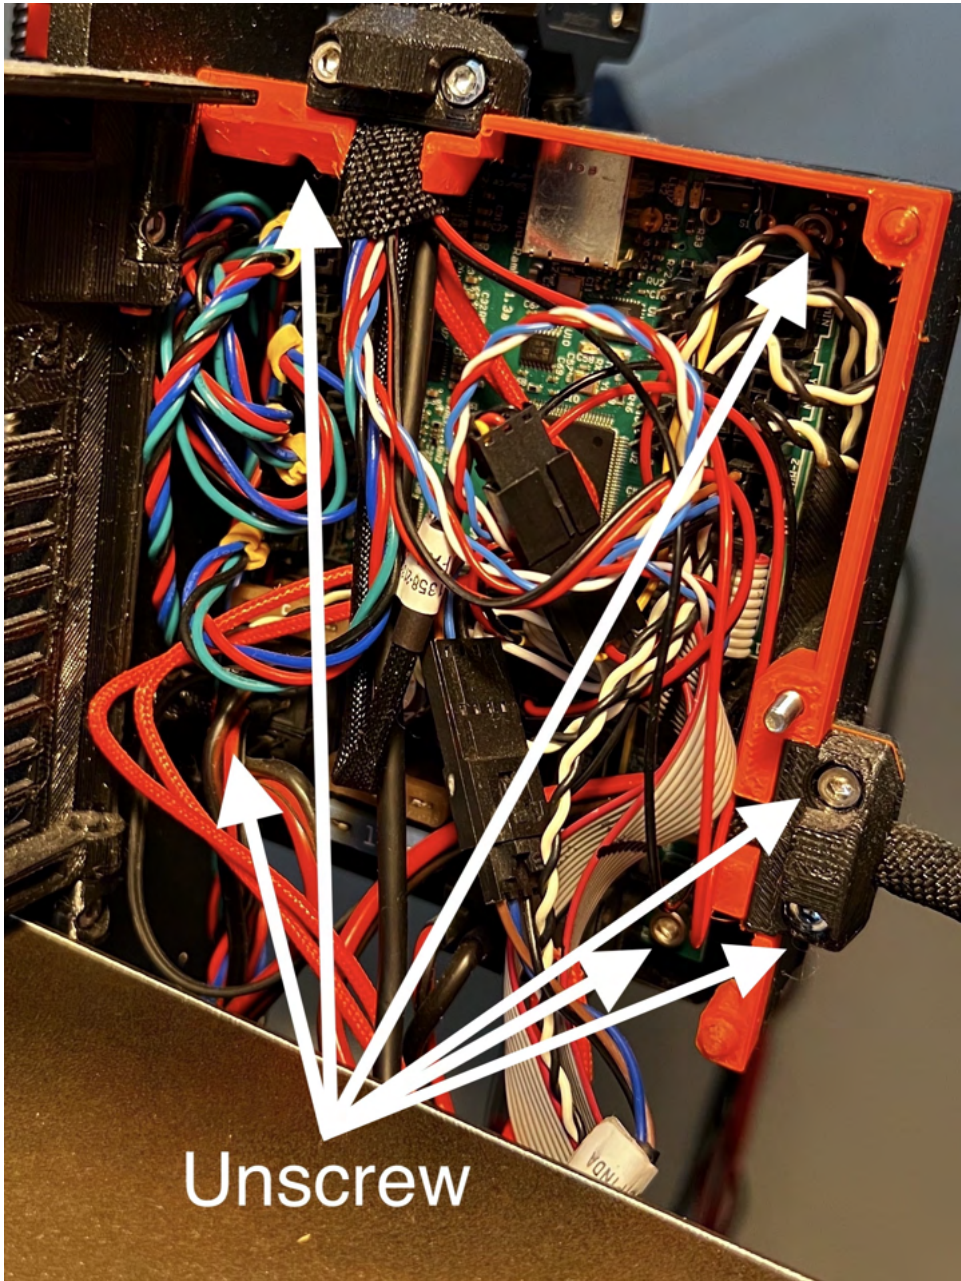
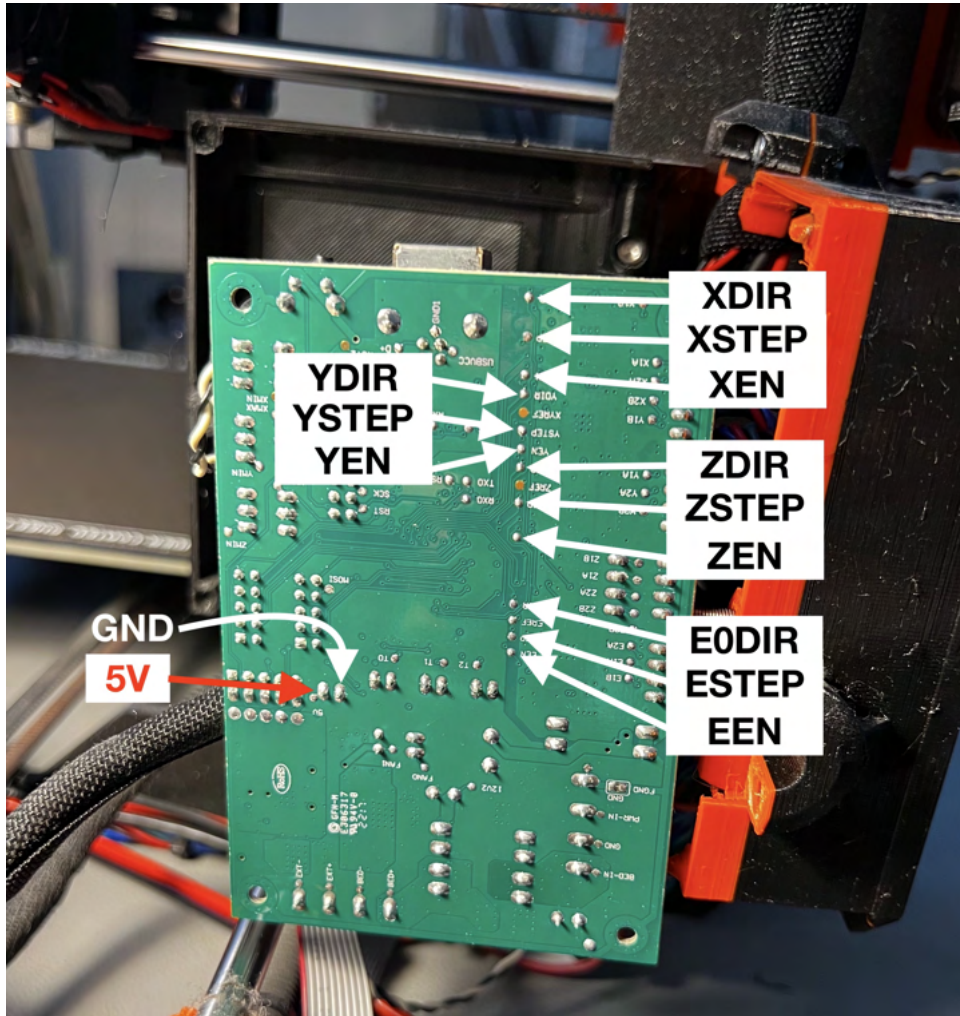
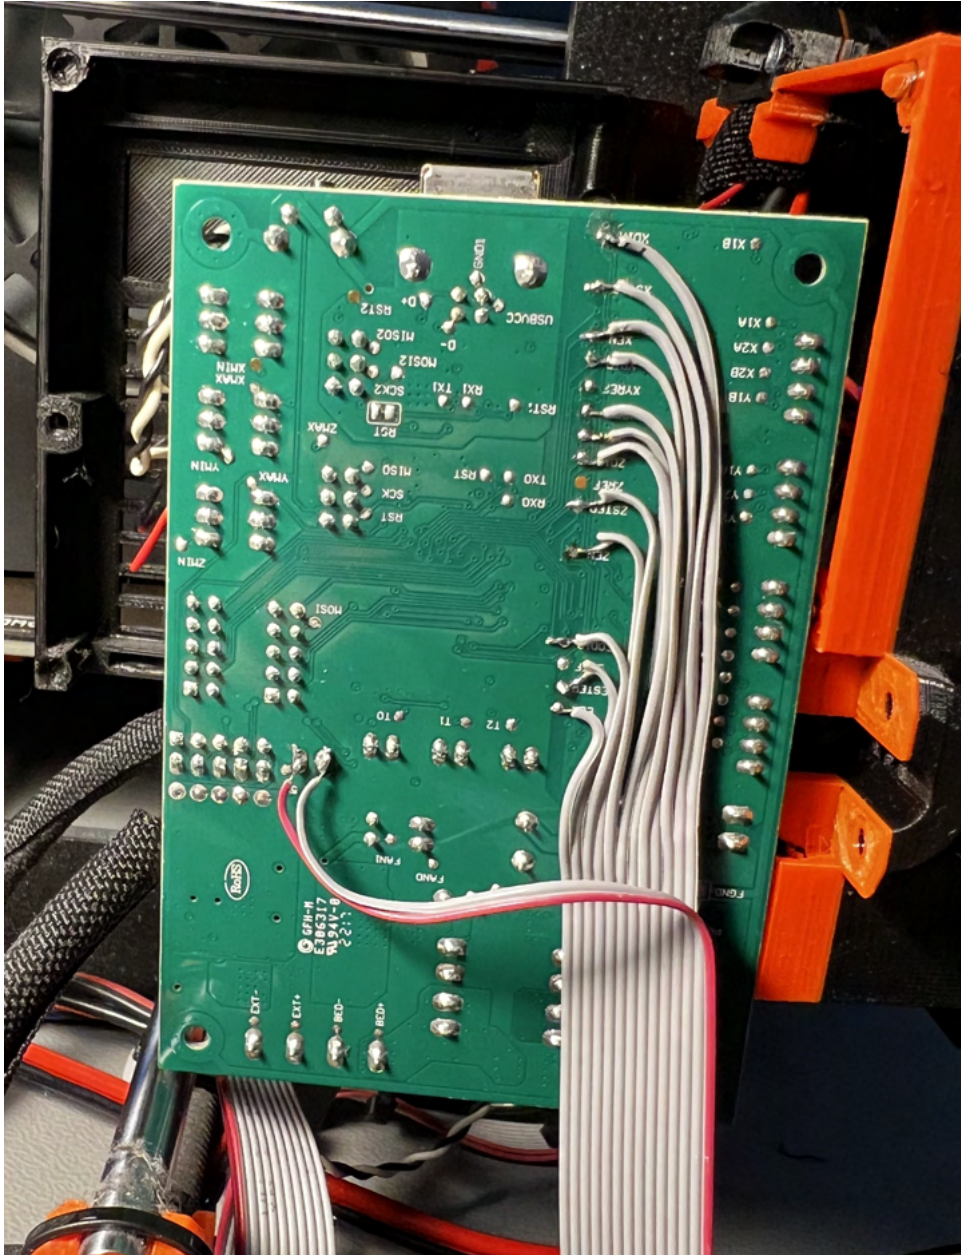

Figure 6: Front side Rambo control board.
Figure 7: Recommended position for Rambo control board to solder data pins.
Figure 8: Data pins soldered to Rambo for **XYZE** board.
Moving on to the main board, I suggest that you only unscrew the board from the Rambo base while leaving all the wires connected. While you are free to approach this step as you see fit, I have found that this method makes soldering the data pins easiest. Begin by unscrewing the screw on the Rambo cover and opening it. Unscrew the screws marked in Figure 6, and move the Rambo board to the position shown in Figure 7. This will provide easy access to the pads that need to be soldered to the data pins on the ribbon cable.
**IMPORTANT:** Before beginning with the soldering, it's important to note that the pads' names are marked on the Rambo board, as shown in Figure 7. It's crucial to watch out for the REF pins located close to the other pins and make sure you don't accidentally solder a data pin to one of those. Additionally, the data cable's orientation should be such that the red cable is located towards the right, ensuring the correct orientation of the connector to the upgrade board, as shown in Figure 8.
After you have finished soldering to data pins the result should look like Figure 8. You can use some silicone or similar to glue the cables in place.